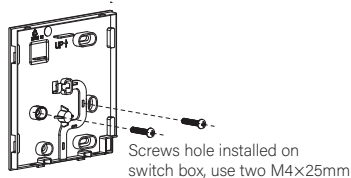

Fig 3-4
- Refer to **Fig. 3-4** for guidance.